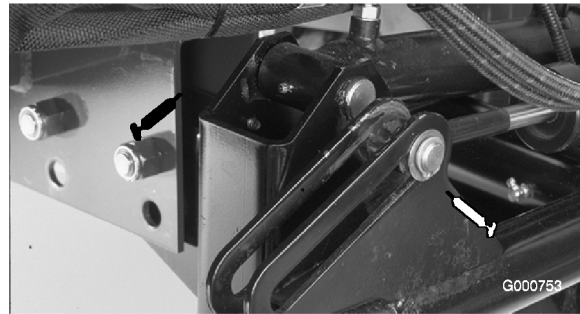
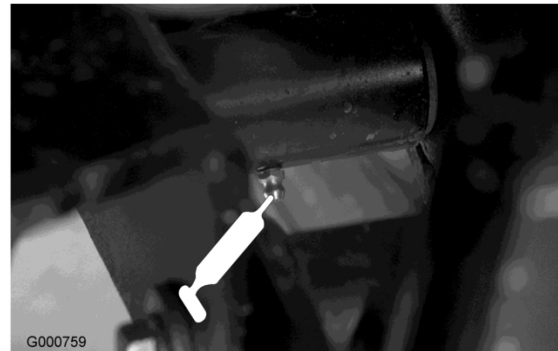

Figure 31
Figure 32
- Front lift cylinders (3) (Figure 31 and Figure 32)